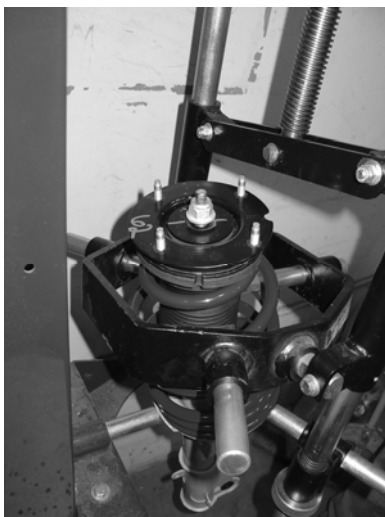

Figure 4
7. Align the notch on the cap with the bolt holes at the bottom of the strut. (Figure 4)